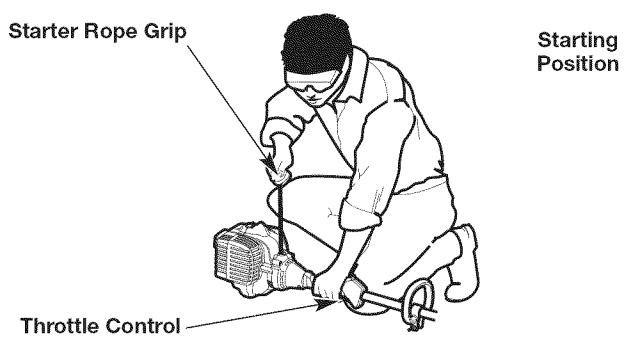

Fig. 14
**WARNING:** Avoid accidentally starting the unit. To avoid serious injury, the operator and the unit must be in a stable position when pulling the starter rope (Fig. 14).
5. Crouch in the starting position (Fig. 14).
6. Squeeze and hold the throttle control. Pull the starter rope with a controlled and steady motion **5 times** (Fig. 14).